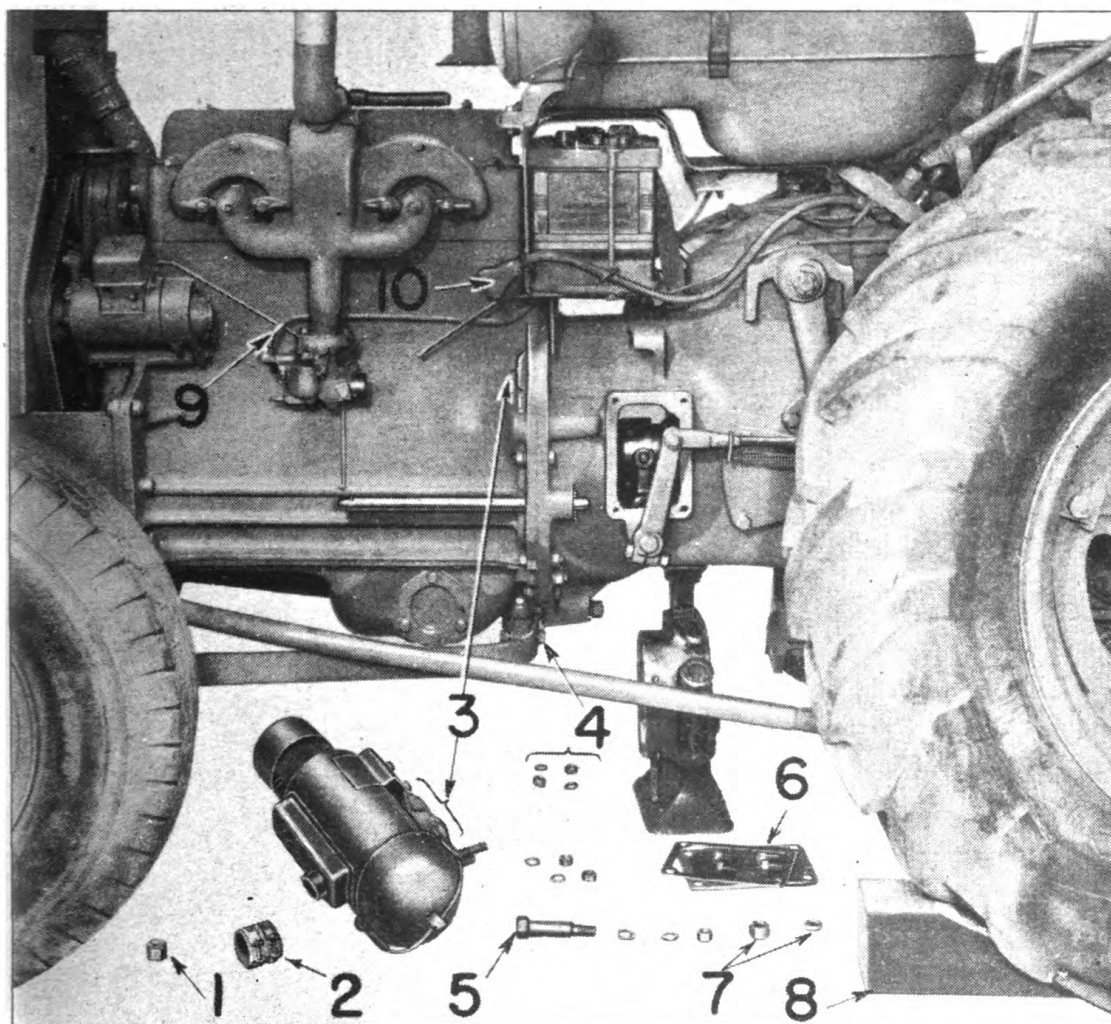

Fig. 71. Left Side of Tractor Prepared for Splitting
5. Loosen thumb nuts on top of battery bracket, slide out battery box and remove the cable to the starter switch. No. 10 Fig. 71.
6. Remove pressure fitting and lock from drag link. Remove threaded plug and floating bearing. No. 7 Fig. 71.
7. Remove nuts from bolts on radius rod ball socket and loosen bolts from radius ball socket. No. 4 Fig. 71.
9. Remove air cleaner hose to carburetor. Remove two bolts from transmission case and remove air cleaner complete. No. 3 Fig. 71.
5. Push the motor together and insert and tighten the dowel bolt on the left side No. 5 Fig. 71.